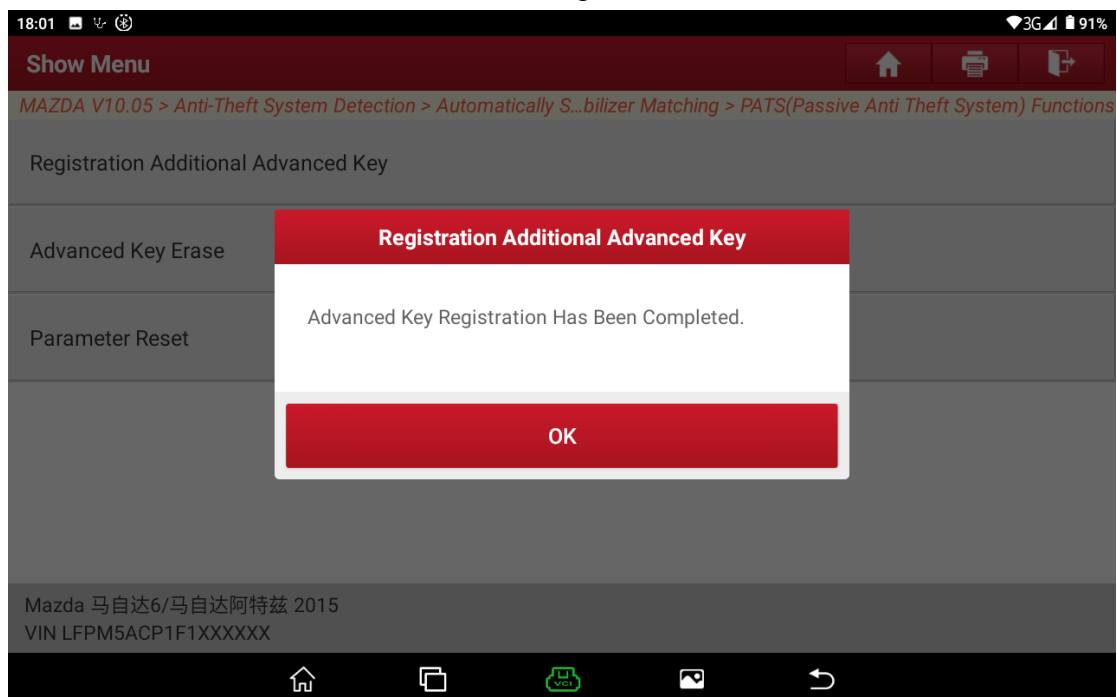

Figure A21
18. Function execution is successful. See Figure A21.